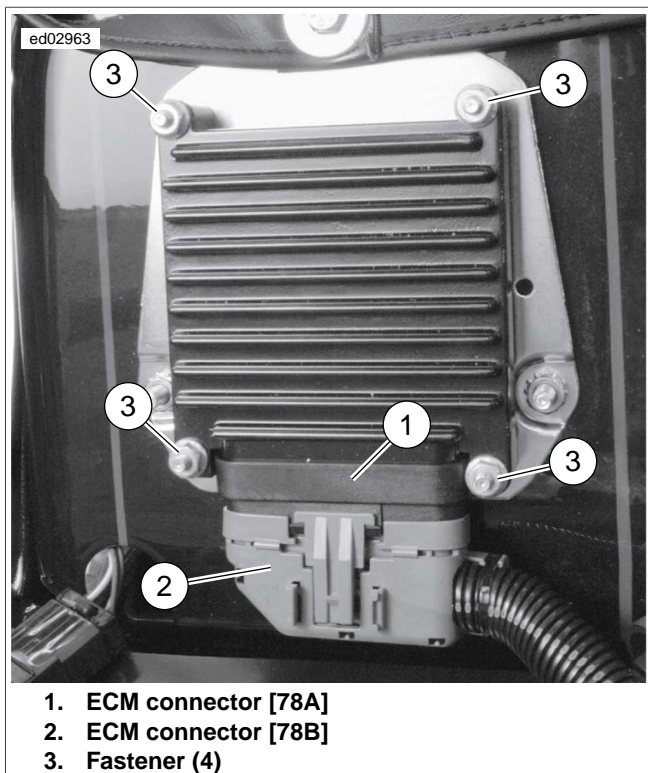

Figure 4-9. ECM mount
2. See Figure 4-9. Remove ECM.